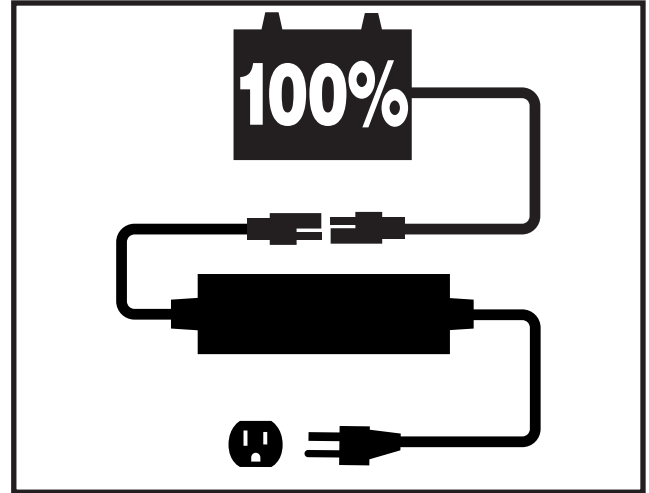

Figure 23. Battery Charging
2. Plug the charger cord into the mating socket located on the bottom of the battery case, then connect the charger cord to a standard electrical outlet. See figure 23.